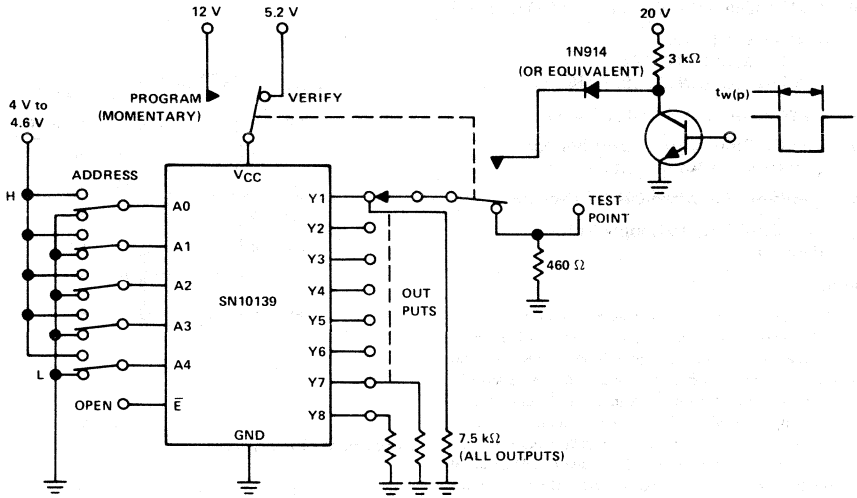

FIGURE 3—PROGRAMMING CIRCUIT
1. Connect VEE (Pin 8) to ground and VCC (Pin 16) to 5.2 V. See Figure 3. Address the word to be programmed by applying to the appropriate address inputs 4 to 4.6 V for a high level and 0 to 1 V for a low level.